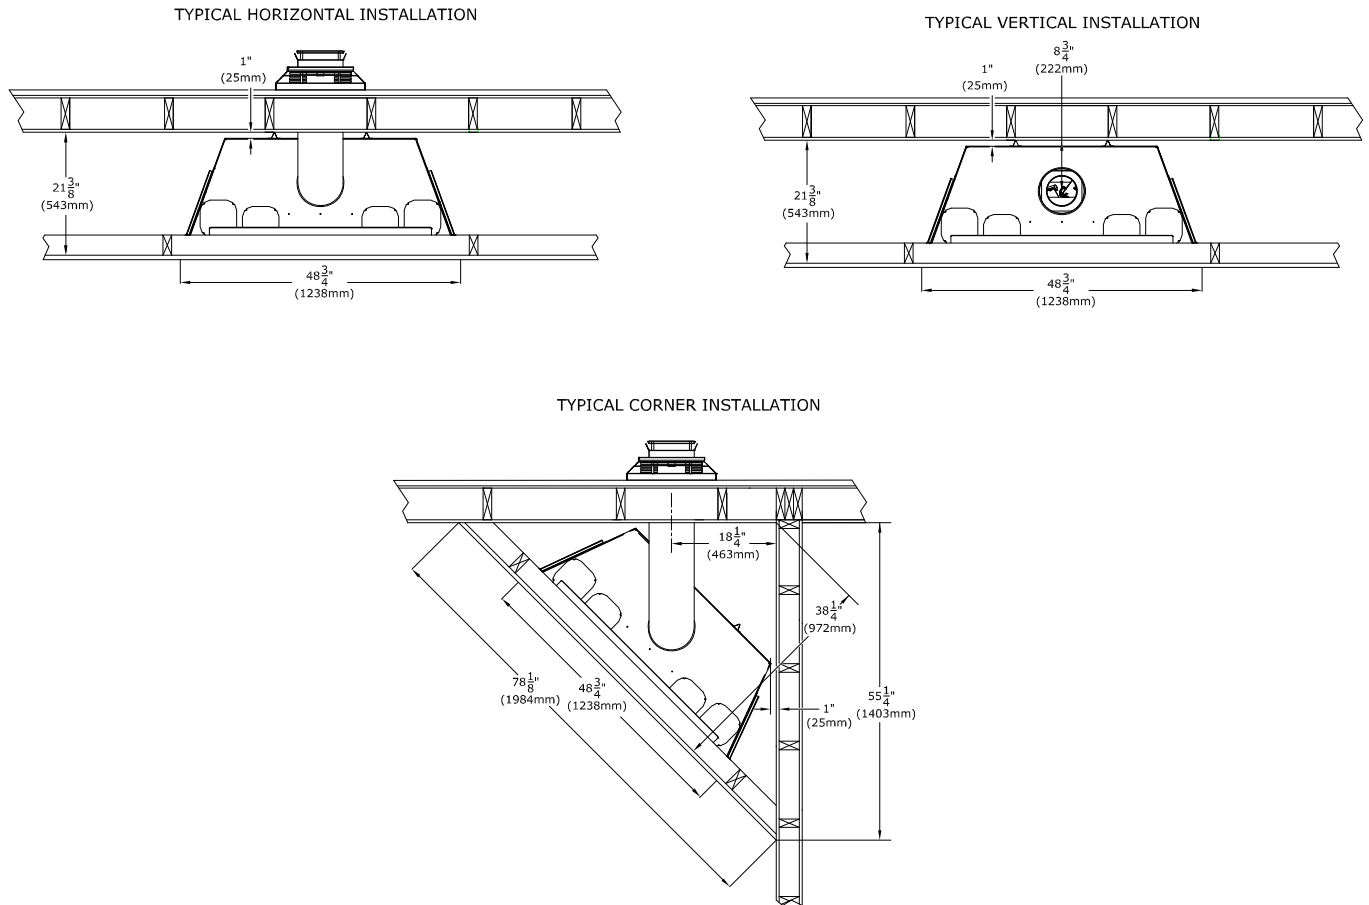

Figure 3.3 - Typical Appliance Installation
- See Figure 3.3 on the following pages for typical standard installation options.